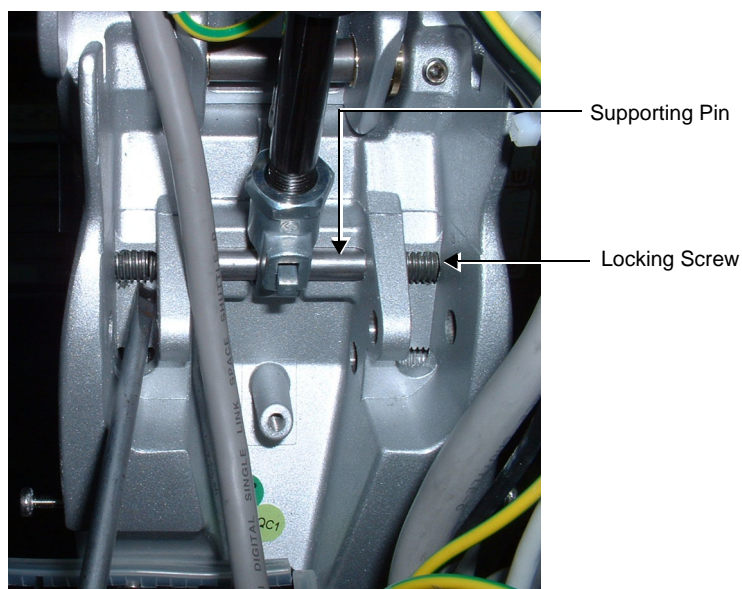

Figure 8-115 Lower Section of Gas Spring showing Connecting Pin and Locking Screws
- 5.) Position the gas spring cable in the Upper Support arm and connect the lower part of the gas spring at the base of the upper support arm - Figure 8-115.
- 6.) Insert the supporting pin, threading it through the brackets and the lower gas spring holder, as shown in Figure 8-115.